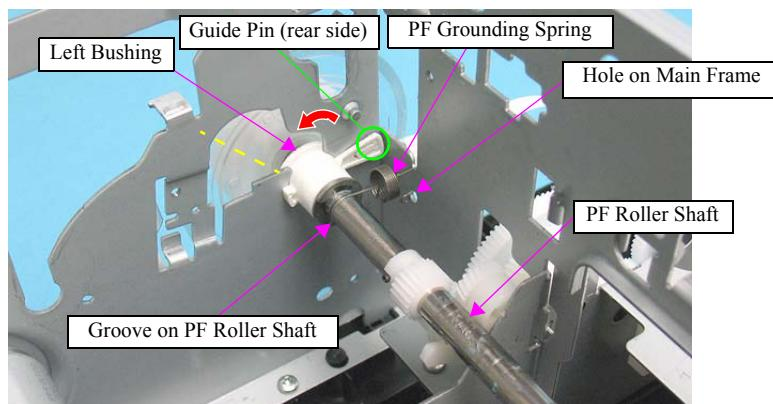

Figure 4-232. Removing the PF Roller Assy (2)
- Make sure that the PF grounding spring leg on the frame side is properly attached to the hole on the Main Frame as shown in *Figure.4-232*.